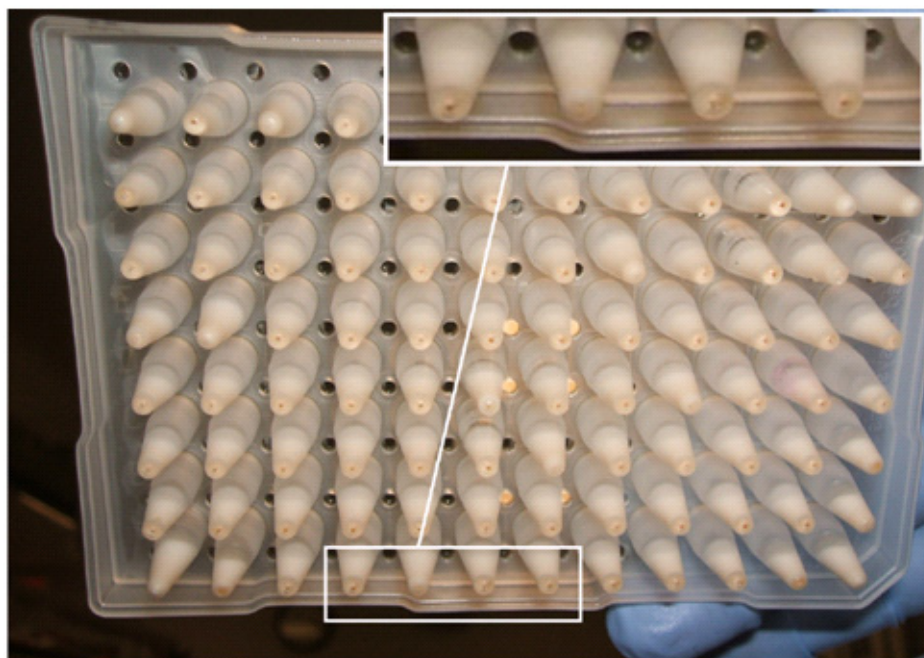

Figure 16 Broken emulsions.
3. After the ePCR Program finishes, inspect the bottom of the reaction plate for beads that have fallen out of the emulsion. Beads appear as amber-colored specks at the bottom of a well. A small number of beads may fall out of emulsion and appear as small brown flecks at the bottom of a well. Applied Biosystems does not recommend any further processing of emulsions that have more than 3 wells of broken emulsion, where aqueous phase appears at the bottom of a well (see Figure 16 on page 32).